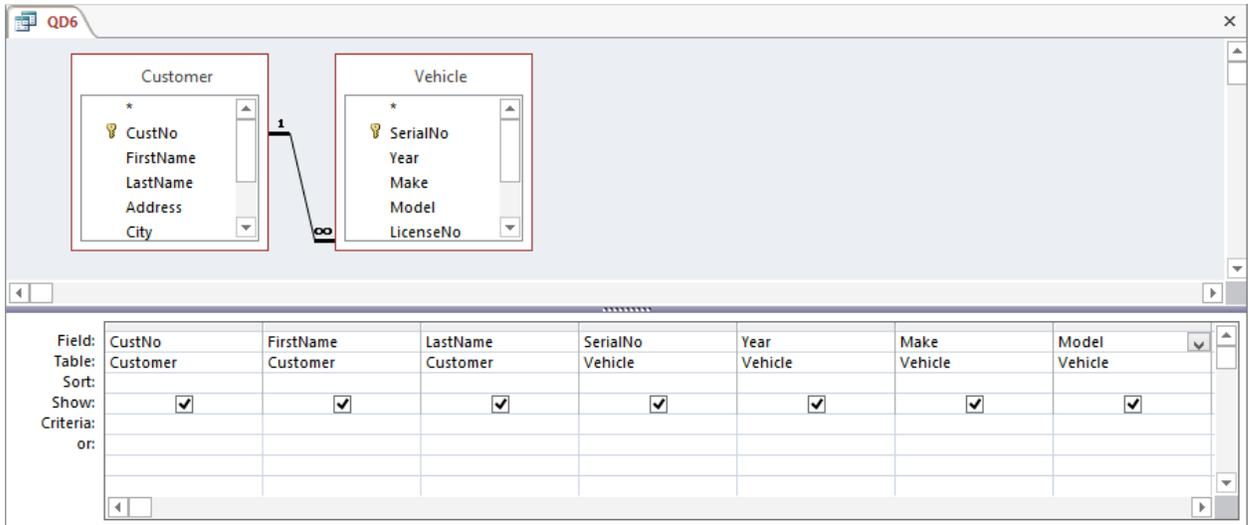

Figure 28: Completed “QD6”
4. Place Fields: In the Query Design window, drag the first three fields from the *Customer* table and the first four fields from the *Vehicle* table to the Query Design table (Figure 28). Note that you have to scroll the table to the right to access additional fields to fill.
³ If your Relationships window does not show thick lines (referential integrity is not supported), the lines in Figure 28 will appear as thin lines. You must enforce referential integrity in the Relationships window to make thick lines in the Join window (Figure 28).
2. Open the Query Design Window: Next, open “QD7” in design view. It should appear the same as “QD6” (refer back to Figure 28).